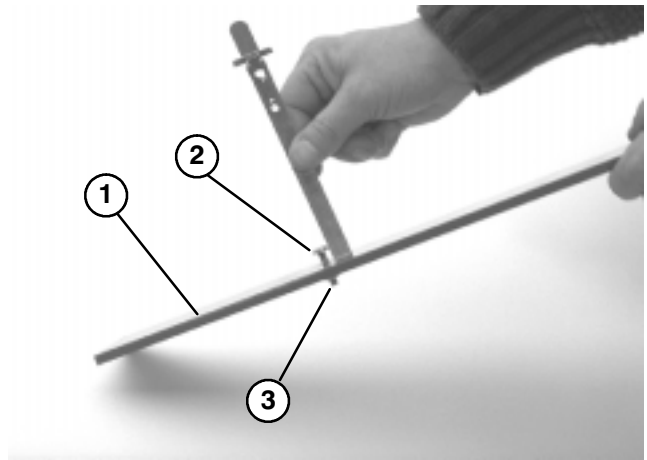

Figure 12
3. Loosen nut on gauge bar (Fig. 12) and set adjusting screw to desired height-of-cut. Distance between bottom of screw head and face of bar is height-of-cut.